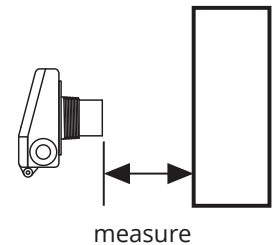

Figure 4.2
- Point the sensor at a target near the minimum measurement range, 1' plus any Blanking distance (See Figure 4.2).